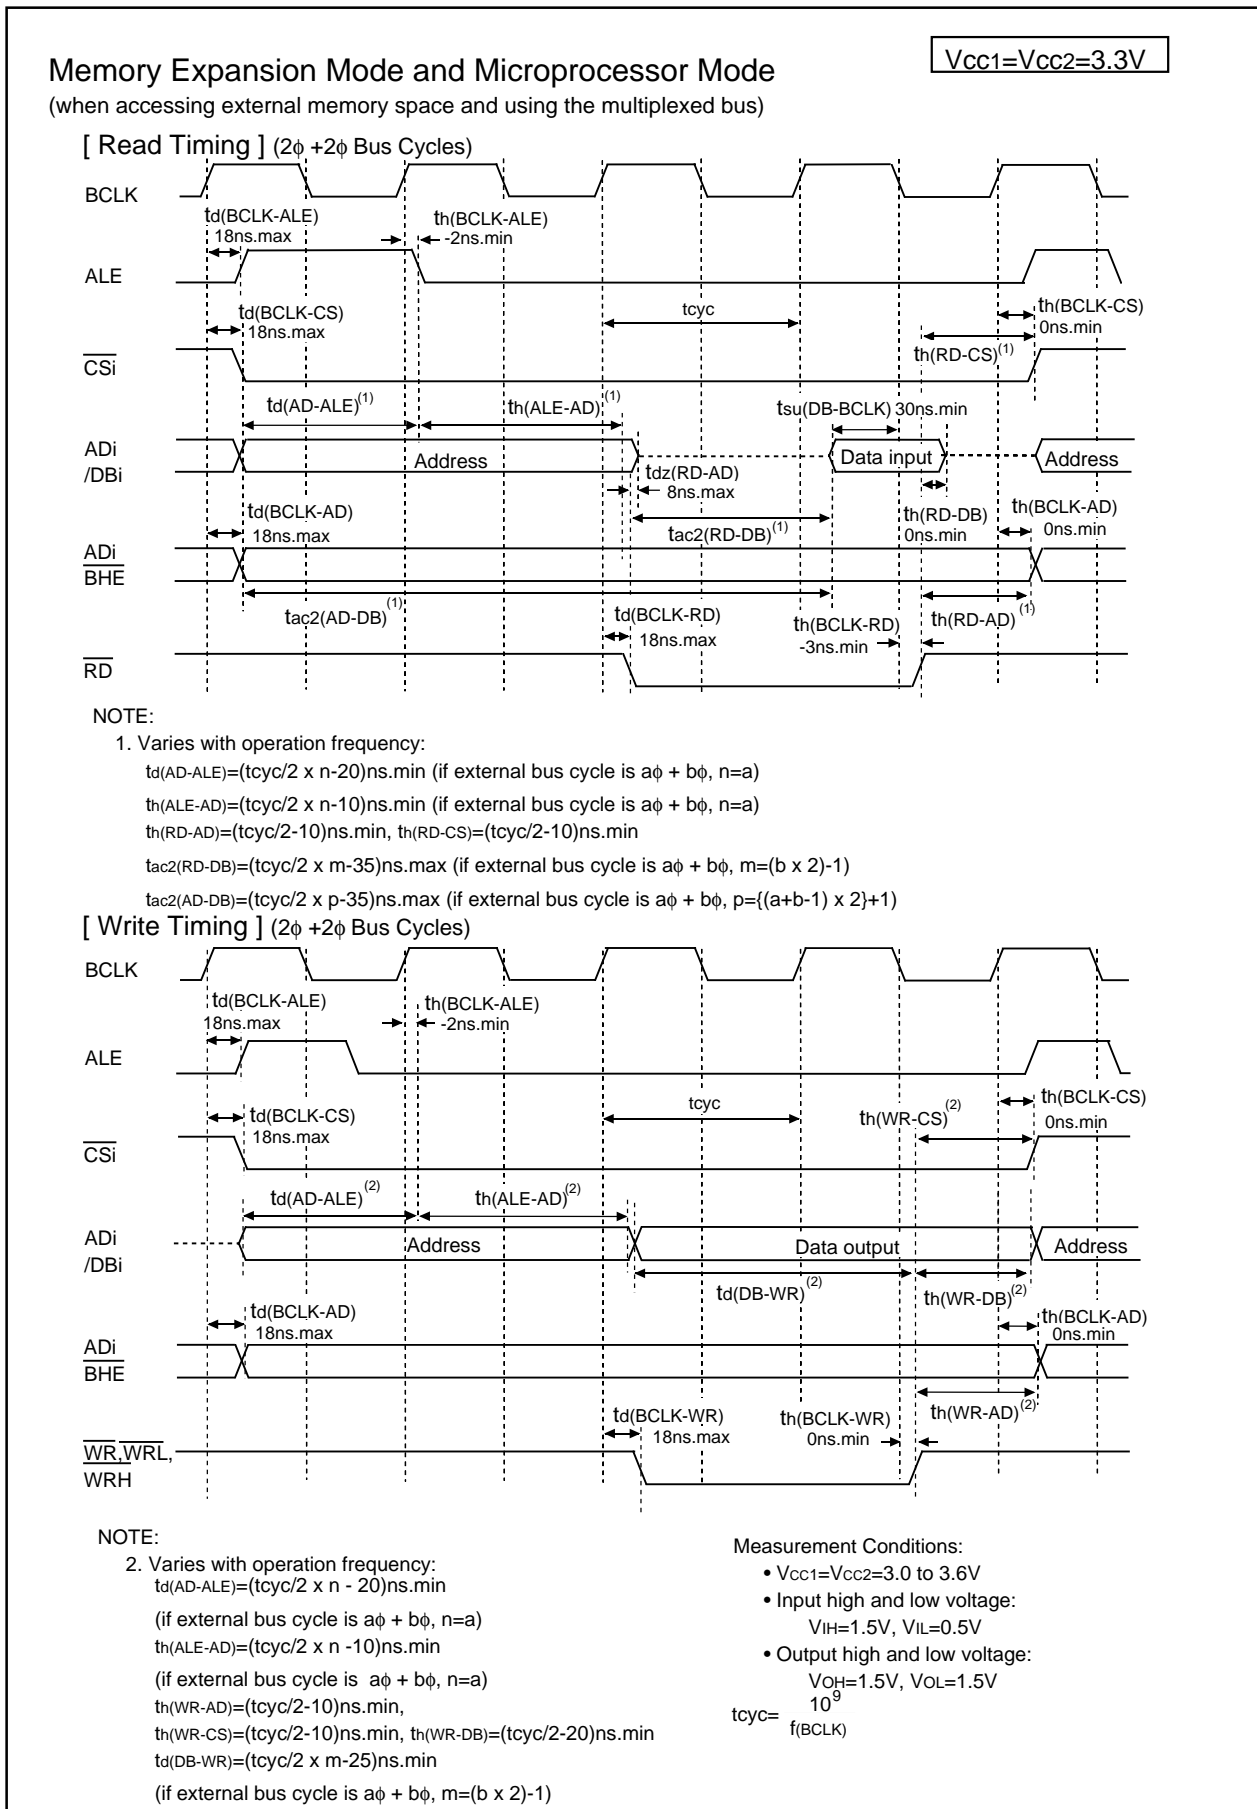

Figure 5.7 V_{CC1}=V_{CC2}=3.3V Timing Diagram (2)
| | | 53 | <ul style="list-style-type: none"> • Figure 5.7 Vcc1=Vcc2=3.3V Timing Diagram (2) Expression for tcyc added; notes 1 and 2 corrected |